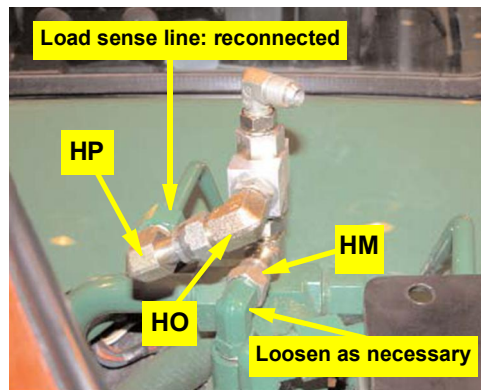

Figure 6c: Installed load sense shuttle valve
c. Install the load sense shuttle valve as follows (Figure 6c):